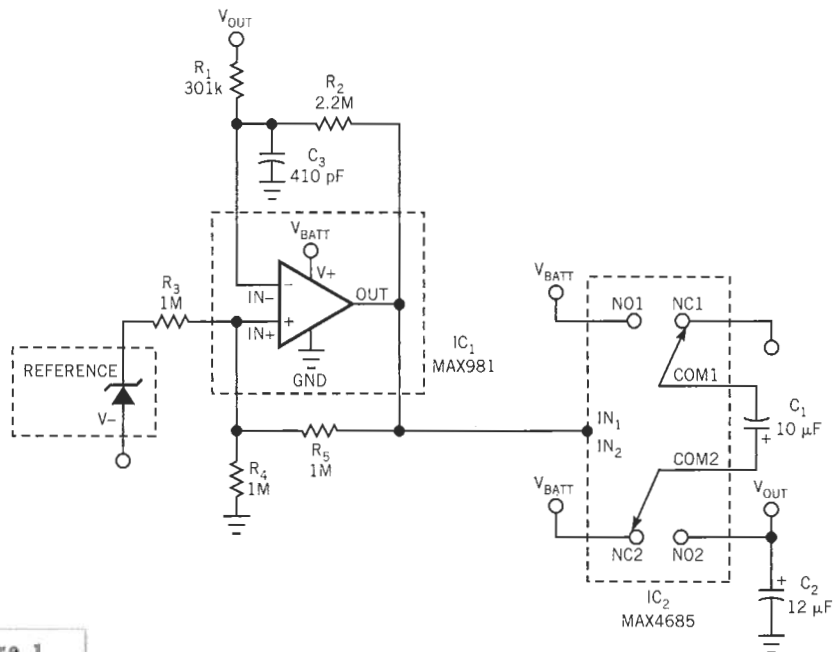

Figure 1
**P**ORTABLE BATTERY-powered devices often spend most of their life in standby mode, in which the quiescent current of an internal boost converter continuously bleeds the battery. The quiescent current during standby can be larger than the actual load current. Though several inductor-based converters offer maximum quiescent current of less than 10  $\mu\text{A}$ , designers usually prefer or require a regulated charge pump for cost-sensitive designs that must be intrinsically safe. Off-the-shelf regulated charge pumps with output-current regulated capabilities of at least 10 mA have typical minimum quiescent currents of 50 to 100  $\mu\text{A}$ . If that level of quiescent current is unacceptable, you can reduce the overall average by adding circuitry that remotely monitors the regulated voltage and toggles the charge pump into and out of shutdown. That approach, however, may not achieve the desirable quiescent-current level of less than 10  $\mu\text{A}$ . The advent of low-on-resistance comparators and references makes possible a charge-pump circuit whose maximum quiescent current is approximately 7  $\mu\text{A}$  (Figure 1).
energy to a storage capacitor tied to  $V_{\text{OUT}}$ . The transfer capacitor then charges again, and the cycle repeats. With ideal analog switches exhibiting zero loss, the  $V_{\text{OUT}}$  level equals two times  $V_{\text{BATT}}$ . As expected, however, the analog switches' finite on-resistance produces an output level that drops in proportion to the load current. The basic regulated charge pump in Figure 1 includes an oscillator, several analog switches, a volt-